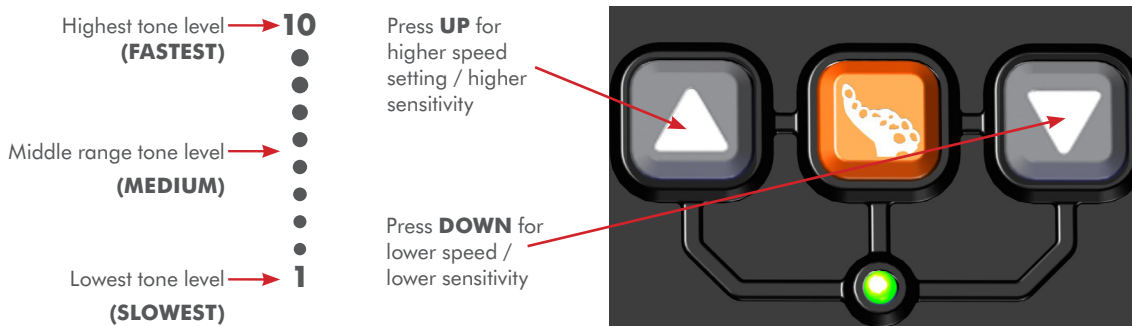

Figure 1
NOTE: Default settings are set to 70% of the highest speed level. Tone increases with level (1-10). **FIG. 1**
2. Press the UP button for higher speed setting and DOWN button for lower speed setting. **FIG. 1**
NOTE: Default settings are in the middle of the range. Tone increases with level (1-10). **FIG. 1**
2. Press the UP for higher sensitivity setting and DOWN for lower sensitivity setting. **FIG. 1**